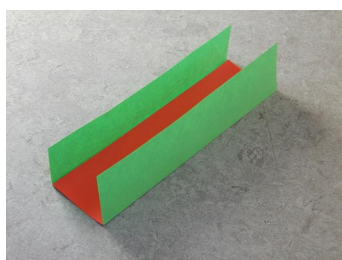
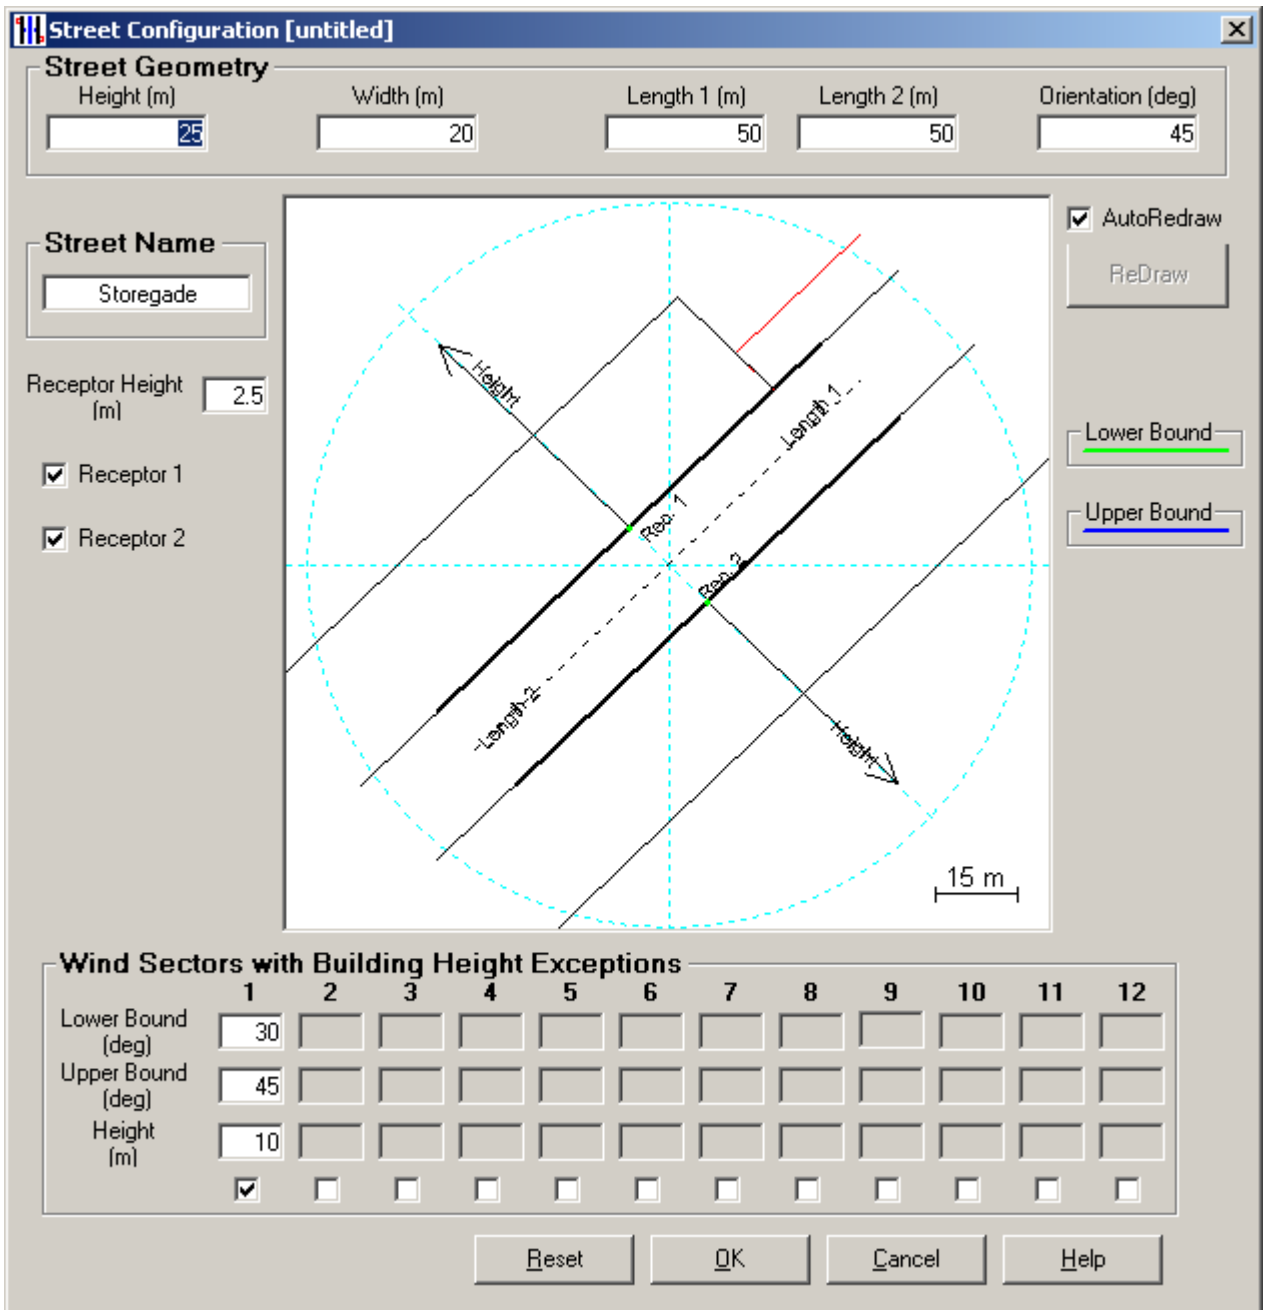

Fig. 4.3
Fig. 4.4 The "Street Configuration" window.
- Press the button "Set Street Configuration" in order to define the street configuration, i.e. the width of the street, building heights and the orientation of the street. You are brought to the "Street Configuration" window (Fig. 4.4).
- You may think of the street with buildings as a folded piece of cardboard (Fig. 4.3) The drawing in the "Street Configuration" window shows the street with the buildings "unfolded" (Fig. 4.4).